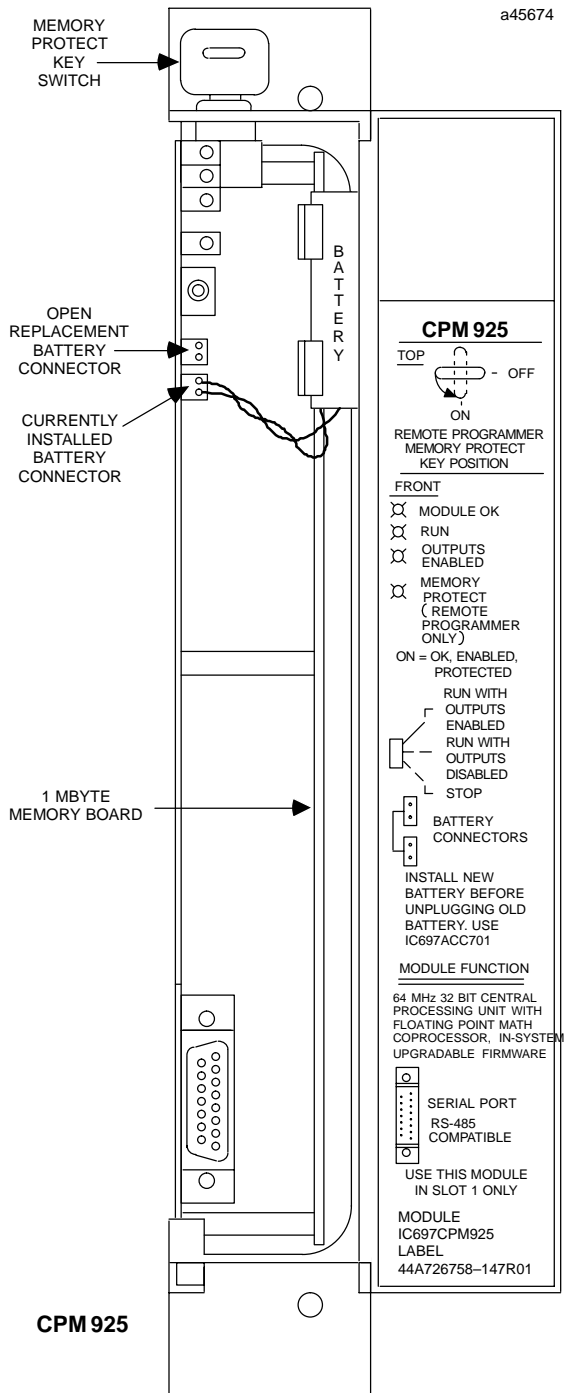

Figure 2. CPM 925 - Location of Major Features
- Connect the battery to either of the battery connectors on the module (see Figure 2).
A lithium battery (IC697ACC701) is installed as shown in Figure 2. This battery maintains program and data memory when power is removed and operates the calendar clock. Be sure to install the new battery before removing the old battery. Specific indication of a low battery state is detailed in Reference 2.